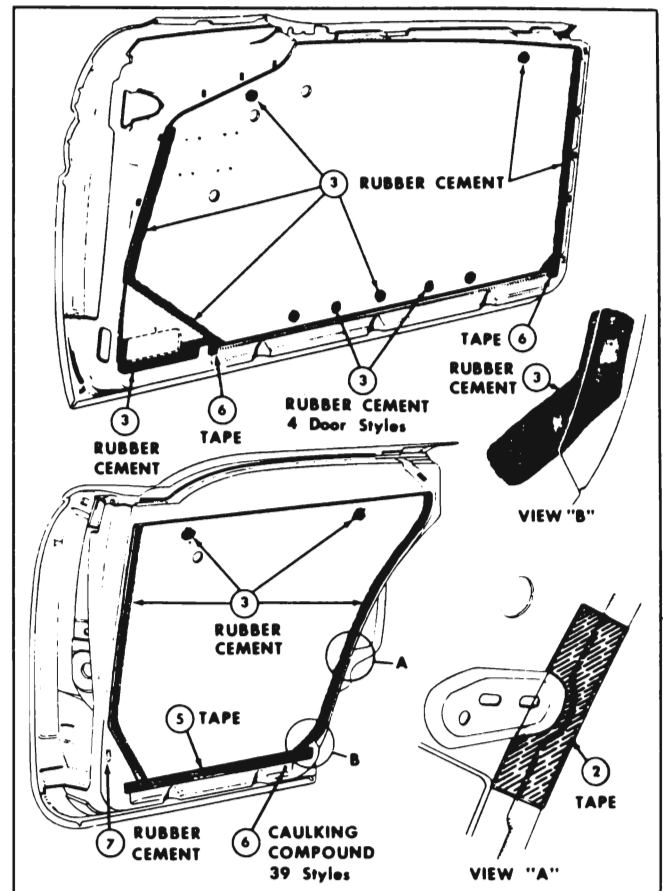

Figure 13-25—Door Water Deflectors
3. With a sharp scraper break cement bond securing edges of water deflector to door inner panel and at spot locations shown in Fig. 13-25 and remove water deflector from door.
Numbered arrows in Fig. 13-25 refer to corresponding installation steps.
2. On rear doors of all styles apply water proof body tape (5" long) over the joint of the door lock pillar to door inner panel at the window rear guide mounting embossment, as indicated in View "A", Fig. 13-25; tape is to be positioned with lower end covering the second from the bottom trim assembly retaining slot and upper end of tape covering the third from the bottom retaining slot.
3. Apply an approved rubber cement to door inner panel along a line contacted by front and rear edges of water deflector as indicated in Fig. 13-25. Application should be continuous with no skips. Special attention given to the
joint indicated at "X" in VIEW "B" to provide a flush surface for the water deflector to bridge the two panels and provide a seal at this point. Apply cement at spot locations indicated in Fig. 13-25.
5. On rear doors apply water proof body tape (20" long) to the water deflector and inner panel at retaining slot as indicated in Fig. 13-25. Tape should be applied half on water deflector and half on inner panel with ends extending beyond the deflector to prevent water-leaks at corners of retaining slot.
6. On front doors apply water proof body tape to deflector and inner panel at both ends of retaining slot as indicated in Fig. 13-25.
7. Seal the rear door trim assembly lower front corner retaining slot with body caulking compound. On 43-63 Models seal the window guide cam lower attaching slot with body caulking compound. (See Fig. 13-25)